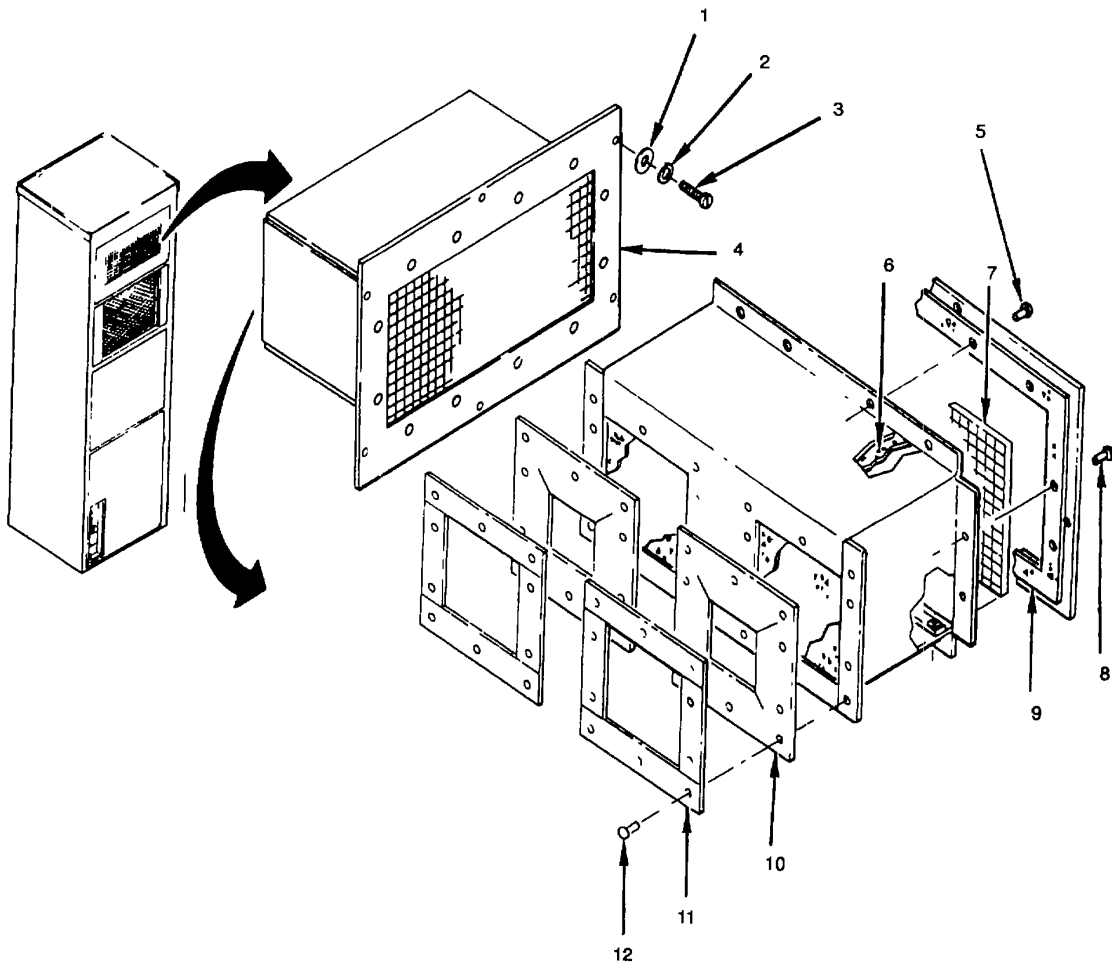

Figure 4-13. Evaporator Duct Panel
- a. Remove six screws (3), lockwashers (2), and flat washers (1) (see fig. 4-13).
- b. Remove panel (4)
- b. Check that gaskets (9) and (10), and foam (6) are not torn, loose or missing.
- c. Check that screen (7) is not damaged
- d. Check that rivets (5) and (9) are not damaged or missing.